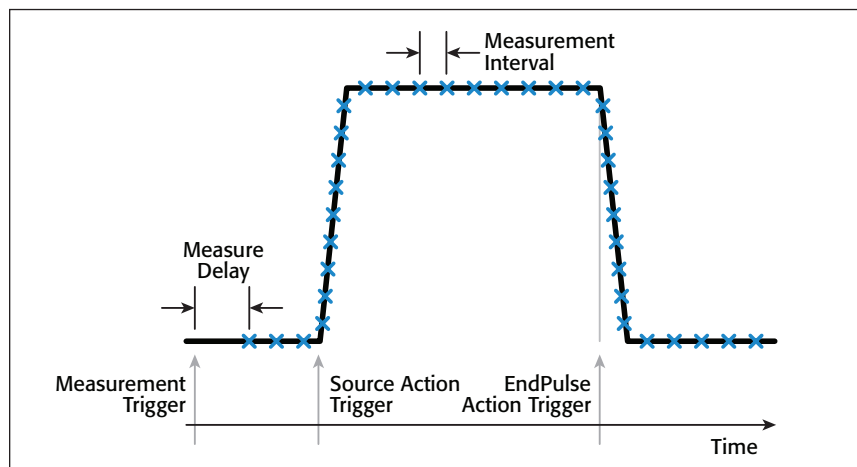

Figure 1: Precisely specify a pulse using the Model 2651A.
**Figure 1** illustrates some of the variables you can set to generate the pulses and the timing that best meet the needs of the devices being tested. **Figure 2** illustrates five examples of pulsed signals and measurements that can be made with the Model 2651A.